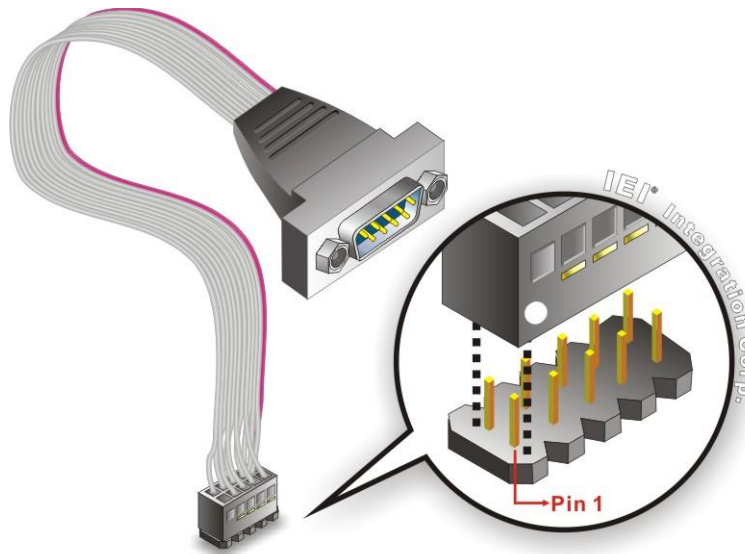

Figure 4-21: Single RS-232 Cable Installation
Step 2: Insert the cable connector. Align the cable connector with the onboard connector. Make sure pin 1 on the board and connector line up. Pin 1 on the cable connector is indicated with a white dot. See Figure 4-21.